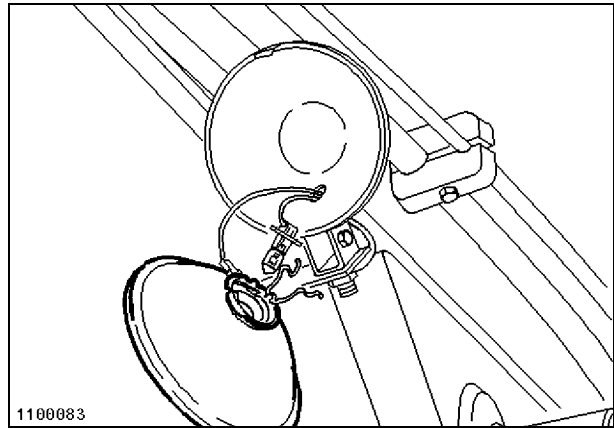

Fig. 11
- Swing lamp retaining clip aside (Fig. 11).